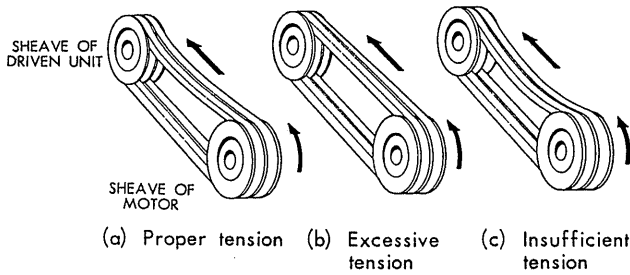

Fig. 7 Belt Tension and Running Direction
- After adjustment of belt tension, operate the drive a couple of minutes to see if belt tension has been set properly. An optimum belt tension gives a slight bow on the top (slack side) while the drive is started and operating at full load, as shown in Fig. 7 (a). Too tight belt gives no bow as illustrated in Fig. 7 (b), and too slack belt produces a large bow, Fig. 7 (c).